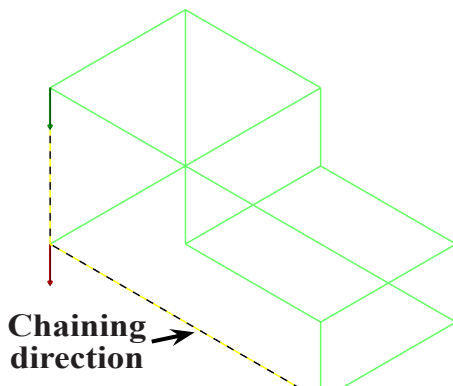
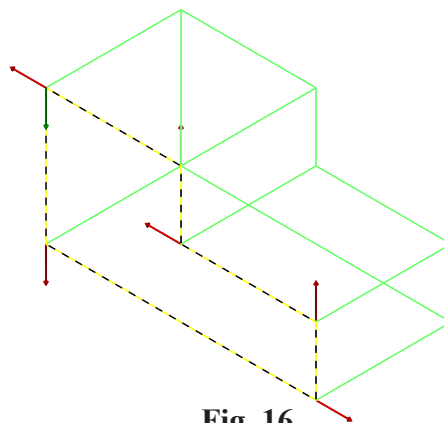

Fig. 15
Fig. 16
Step 4. Walk Chain around the front lines of block in direction of Chain arrows, **Fig. 15** and **Fig. 16**.